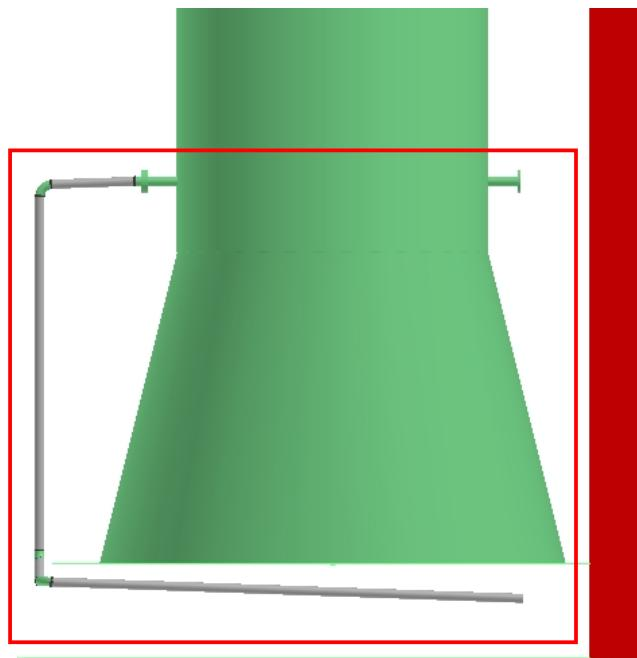

Figure 59: Final Output
20. Click the **Common Views** button on the toolbar to switch to the **Looking South** view. This gives you a better view of the pipe you have placed. The view of your model should now resemble Figure 59.